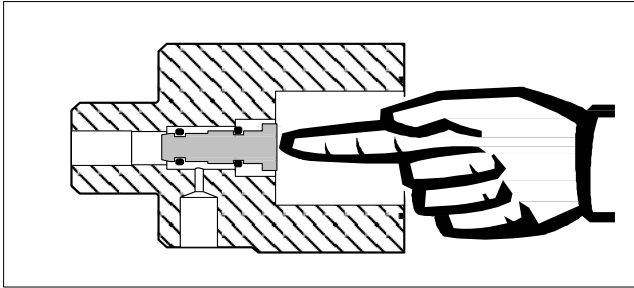

Figure 5 – Seat Holder Installation
- Using your finger, guide seat holder into the body. Use caution not to push too fast which can damage the seal. (See Figure 5).